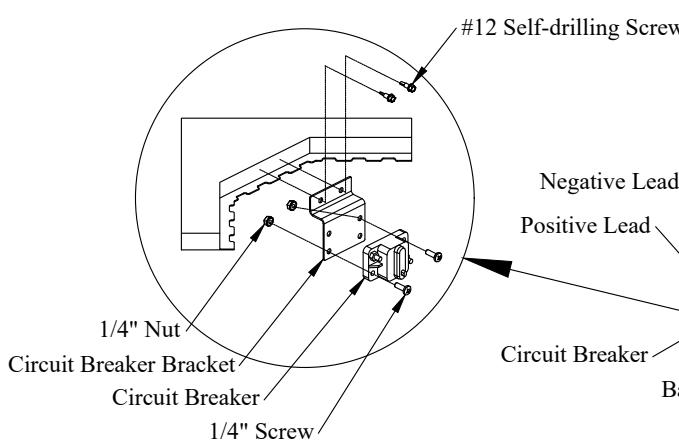

Figure 12: Circuit breaker bracket.
1. Install the circuit breaker on the circuit breaker bracket with 1/4" screws and nuts (Figure 12).
2. Install the circuit breaker bracket on the driver side fender, inside the engine compartment away from moving parts (Figure 12). Use two (2) supplied #12 self-drilling screws. Leave room for the power cables to be installed and the circuit breaker to be reset.